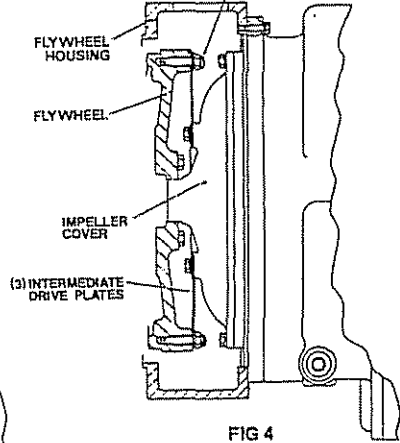

FIG 4
7. Install drive plate attaching screw and washer. Snug screw but do not tighten. Some engine flywheel housings have a hole located on the flywheel housing circumference in line with the drive plate screw access hole. A screwdriver or pry bar used to hold the drive plate against the flywheel will facilitate installation of the drive plate screws. Rotate the engine flywheel and install the remaining seven (7) flywheel to drive plate attaching screws. Snug screws but do not tighten. After all eight (8) screws are installed torque each one 26 to 29 ft-lbs torque [35 - 39 N-m]. This will require tightening each screw and rotating the engine flywheel until the full amount of eight (8) screws have been tightened to specified torque.
*Does not apply to units having 3 intermediate drive plates. See Fig. 4.